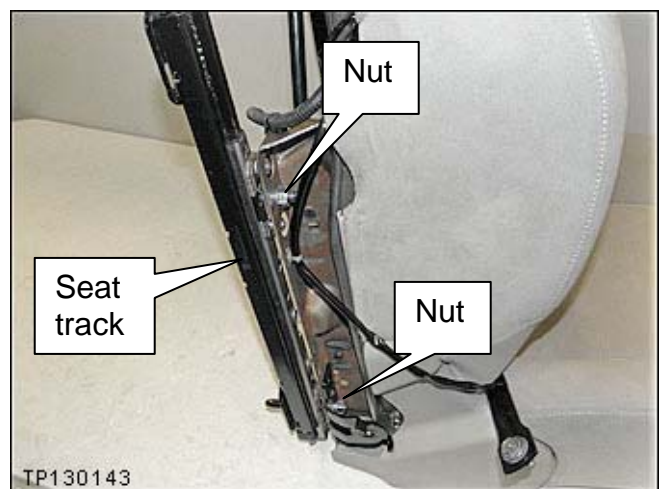

Figure 19
- Remove both 14 mm nuts shown in Figure 19.